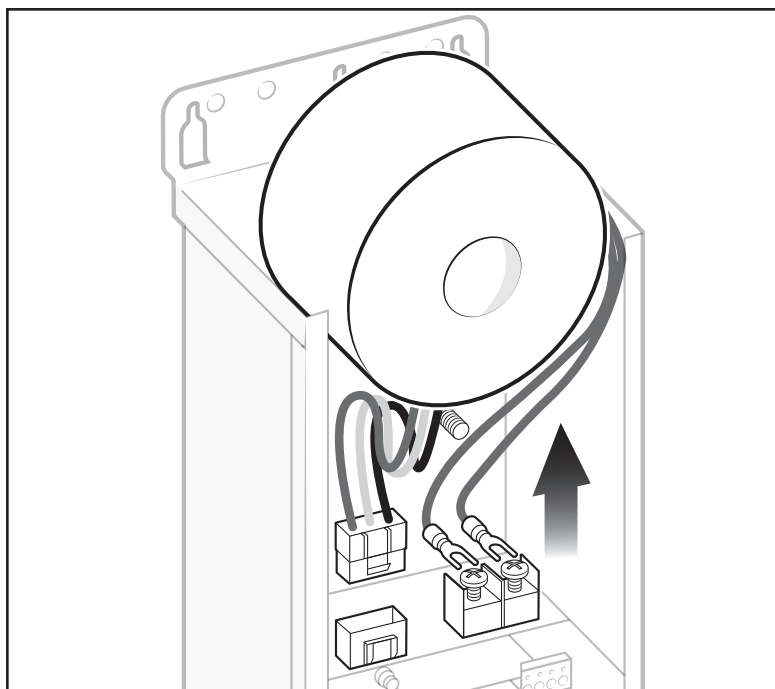

Figure 3. Remove Transformer and Output Wires
7. Pull transformer up to gain access to the output wires, see Figure 3.
8. Use a screwdriver to loosen output wire screws enough to remove blue transformer output wires, see Figure 3.